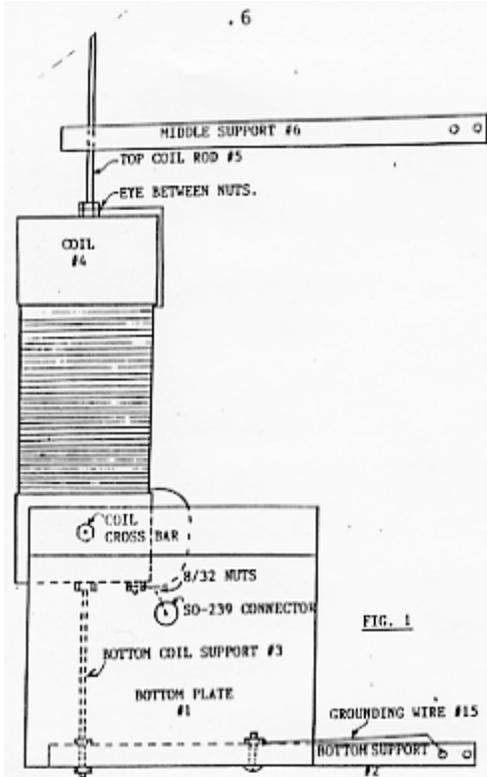

FIG. 1
1. Attach BOTTOM SUPPORT #2 to BOTTOM PLATE #1. Use one 1\4" x 1 1\2" bolt with a GROUNDING WIRE #15 and nut. Use the holes that are closest to the mast, do not tighten at this time. See FIG. 1. NOTE: PLATE #1 has the SO-239 Connector mounted on it.
2. Attach COIL #4 to BOTTOM COIL ROD #3. Each end of #3 should have a nut threaded to the end of the threads. The end with the shorter threads is screwed into the COIL #4 bottom. The nut is tightened to the coil to secure it. See Fig. 1 & 2.
3. Mount the COIL #4 to the BOTTOM PLATE #1 by inserting BOTTOM COIL ROD #3 into the hole farthest from the mast through #2 and #1. Use a second nut to secure. Now you can snug up both nuts on the BOTTOM SUPPORT #2. See Fig. 1.
5. Attach the wire pigtail from the SO-239 Connector and the wire pigtail from the bottom of COIL #4 to the 8/32 stud at the bottom of the coil. Remove one nut, put the solder lugs on and replace the nut and secure. See Fig. 1 and 5.
6. Put one nut on one end of the TOP COIL ROD #5. Put this threaded end through the wire eye at the top of the COIL. Attach a second nut, then screw the TOP COIL ROD #5 into the COIL. With the threads most of the way into the coil, tighten the nut against the coil, then tight the nut above the wire eye. See Fig. 1 and 3.